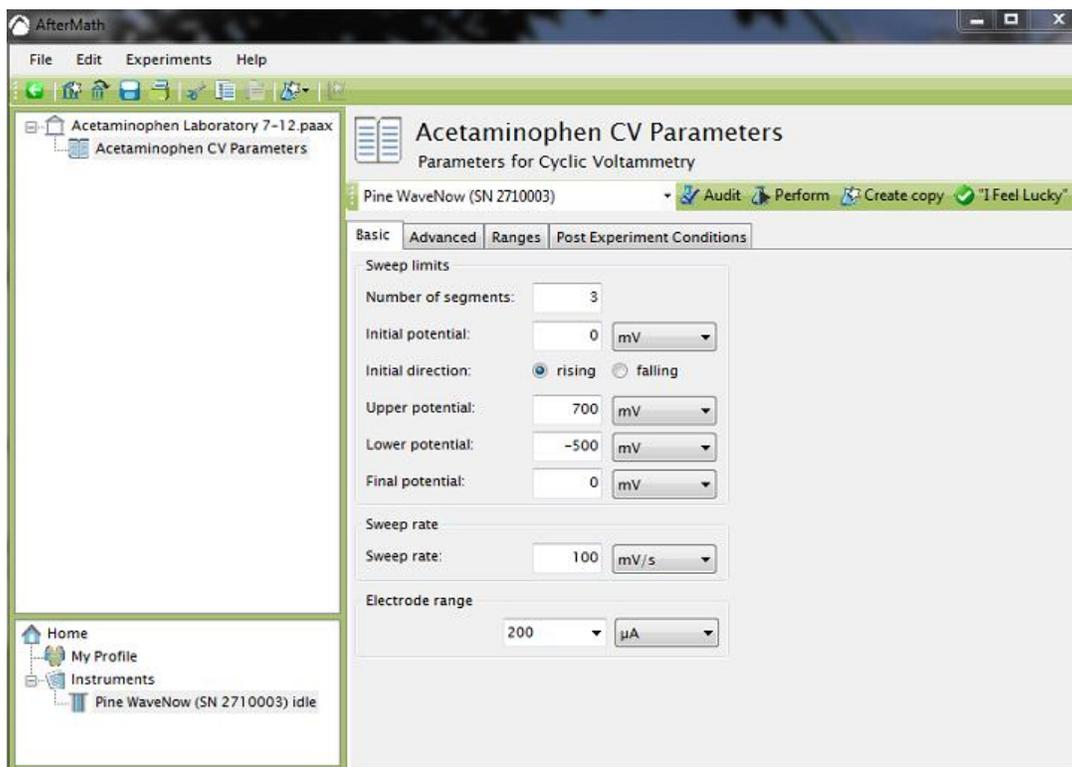

Figure 7. AfterMath™ Experimental Parameters
- Select the Cyclic Voltammetry option from the Experiments menu, and then enter the experimental parameters shown in Figure 7. Note these parameters are suggested starting values for obtaining a background voltammogram. It may be necessary to make some minor adjustments to obtain a satisfactory voltammogram. In particular, it